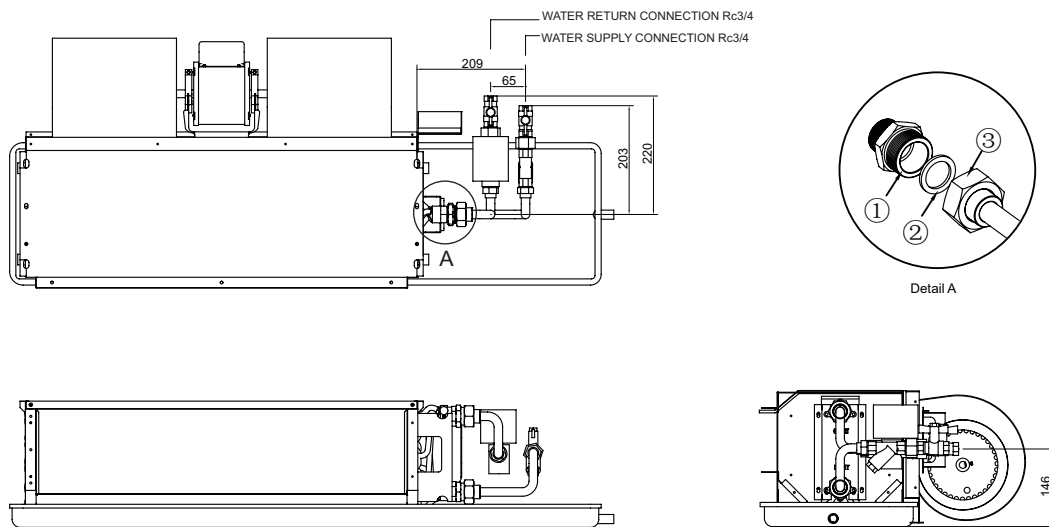

Figure 3 2-Way Valve
1. Install the 2-way valve kit as indicated in the pictures of figure 3. (For right pipe connection unit.) As shown as detail A, firstly take apart connector, then install ① to unit with necessary sealing material. Fix ② between ① and ③. At last tighten ③, make sure all of connectors are sealed.